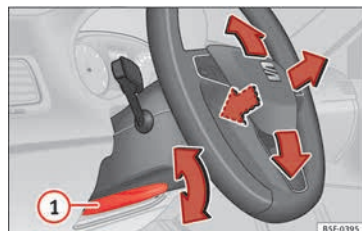

Fig. 20 Lever in the lower left side of the steering column.
- Adjusting the position of the steering wheel: Pull the » » » **Fig. 20** ① lever down, move the steering wheel to the desired position and lift the lever back up until it locks.